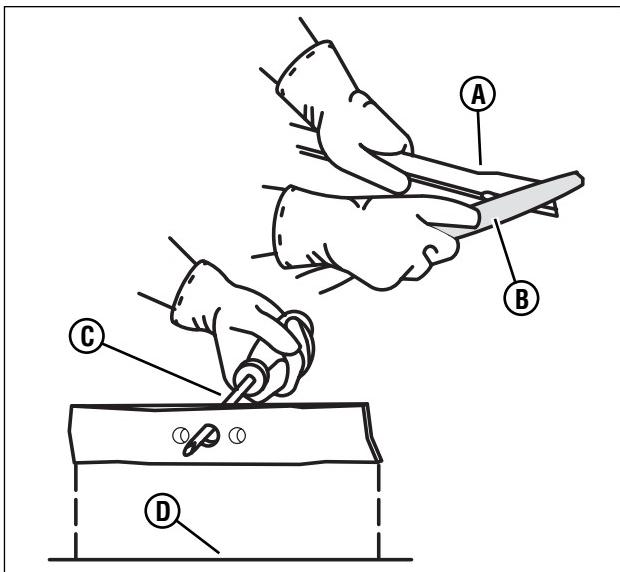

Figure 25: Sharpening the blade
4. Sharpen the blade (**A**, **Figure 25, next page**) with a file (**B**). Make sure you keep the original beveled cutting edge.